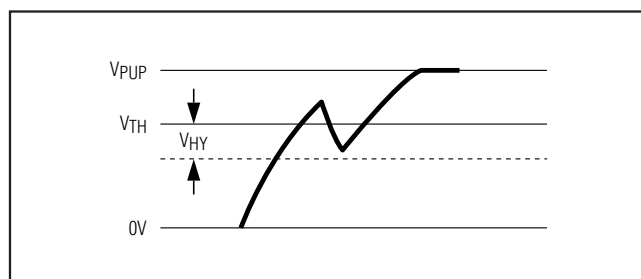

Figure 13. Noise Suppression Scheme
- 2) There is a hysteresis at the low-to-high switching threshold  $V_{TH}$ . If a negative glitch crosses  $V_{TH}$  but does not go below  $V_{TH} - V_{HY}$ , it is not recognized (Figure 13). The hysteresis is effective at any 1-Wire speed.